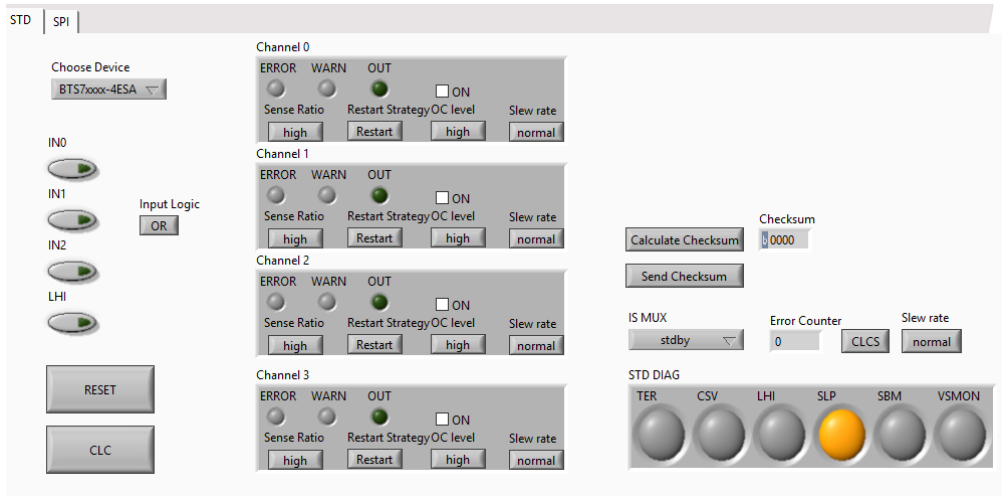
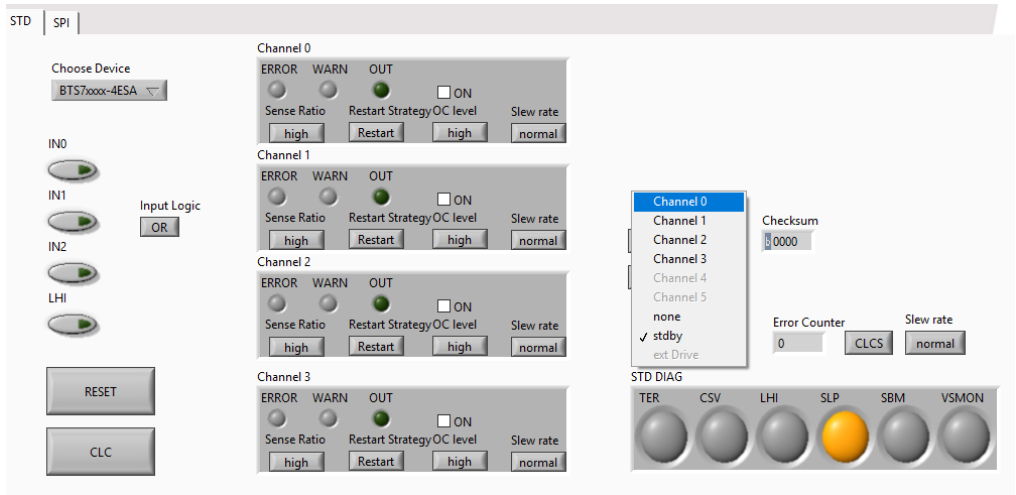

Figure 36 - Switch to STD view
Figure 37 - Select a channel at IS MUX
- Switch to STD view (See Figure 36) and select a channel (0 – 3) at IS MUX (See Figure 37)